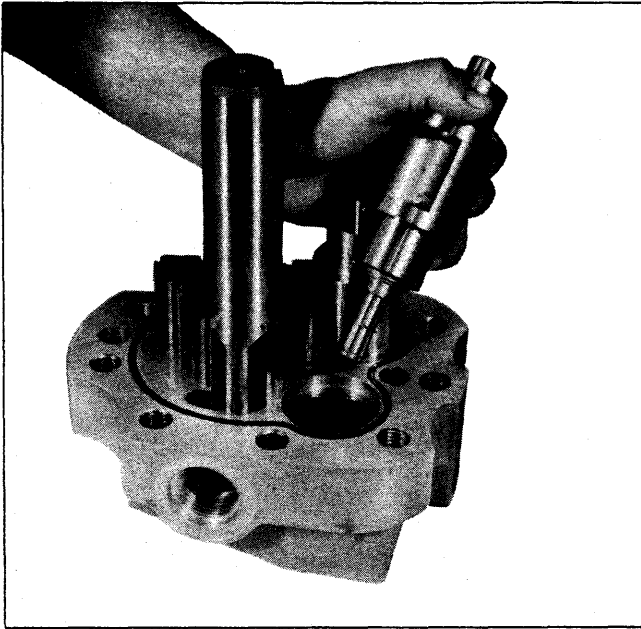

FIGURE 8
10.) By positioning the rotor as in Figure 8, you can lift one of the abutment valves out. Rotate the shaft and remaining abutment until the paddle of the rotor leaves the abutment cavity. You now can remove this abutment.